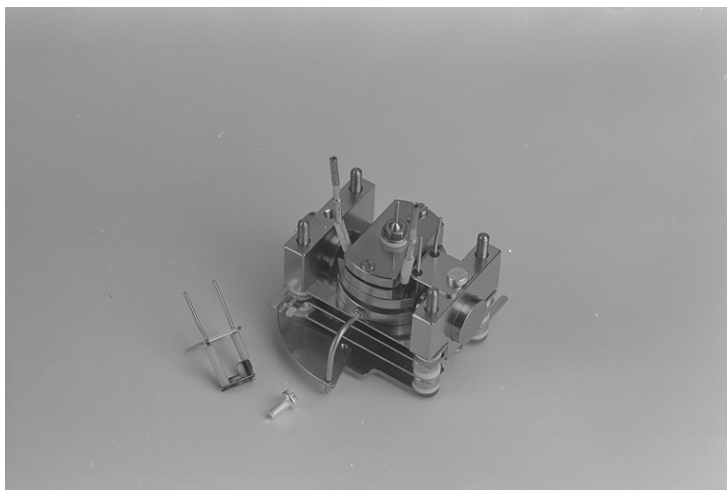

Figure 4-20. Removed filament
2. Remove the filament fixing screw and then take out the old filament (see Figure 4-20).